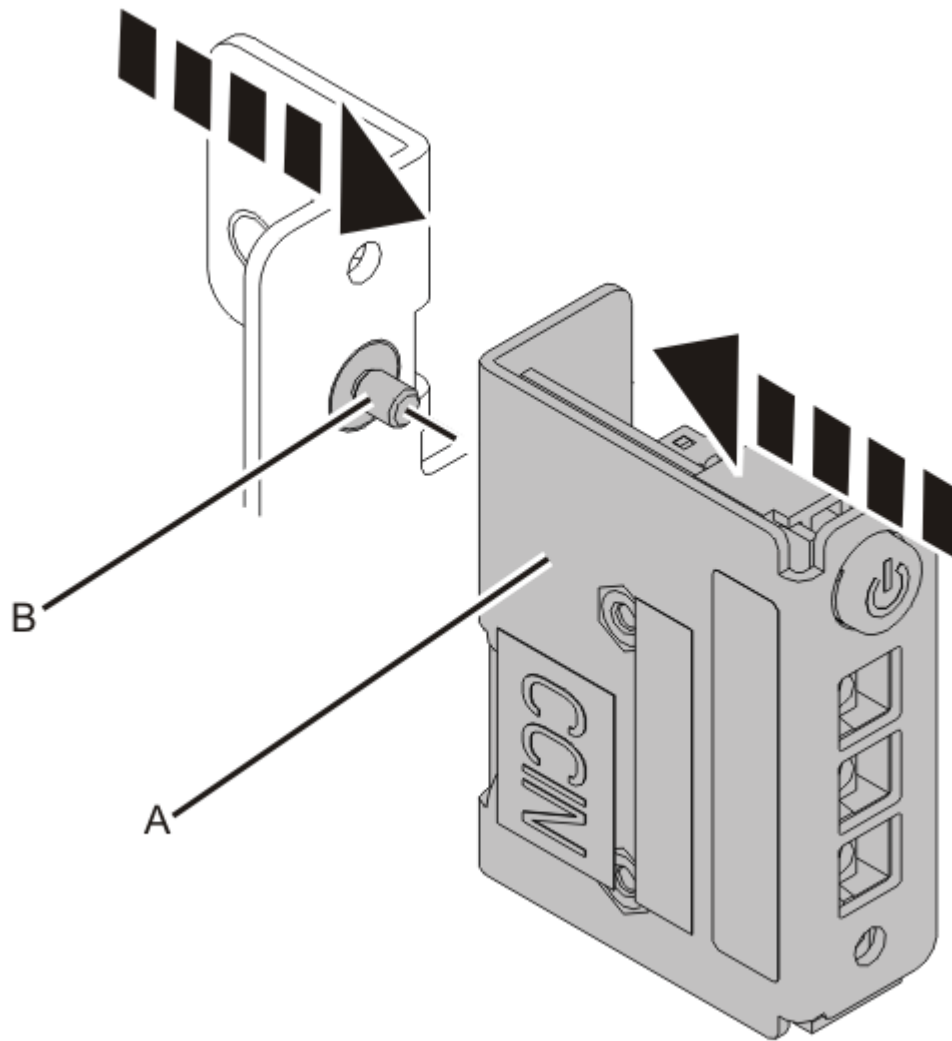

Figure 40. Replacing the control panel onto the bracket
5. Attach the control panel **(A)** to the bracket with screw **(B)** as shown in Figure 40 on page 44. Ensure that the control panel pins align with the bracket holes.